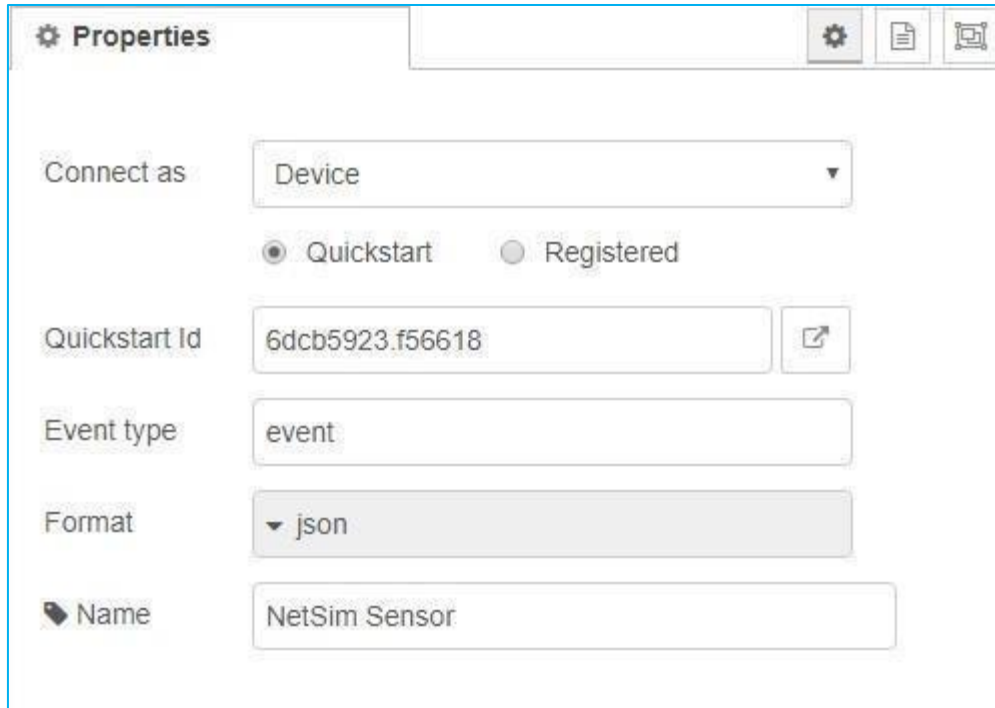

Figure 6: NetSim Sensor node to IBM Watson QuickStart IoT Platform
- Open the Link icon present in **Figure 6** to view live sensor data the payload that you set.